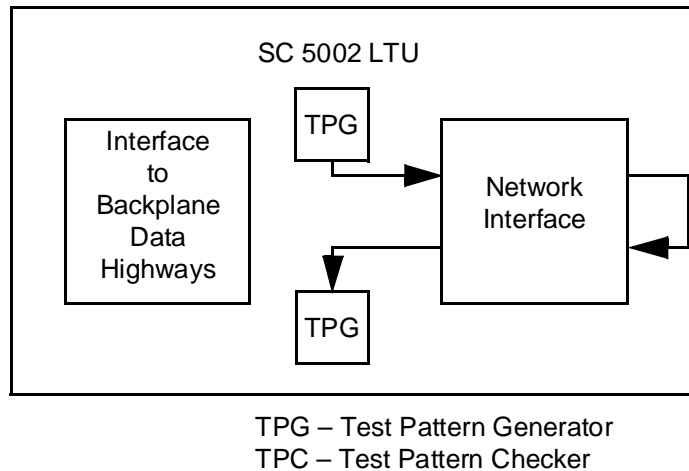

Figure 5-3 Unit Self Test
Figure 5-3 illustrates the Unit Self Test. The Test Mode (TM) indicator on the LTU front panel is lit while the test is active.